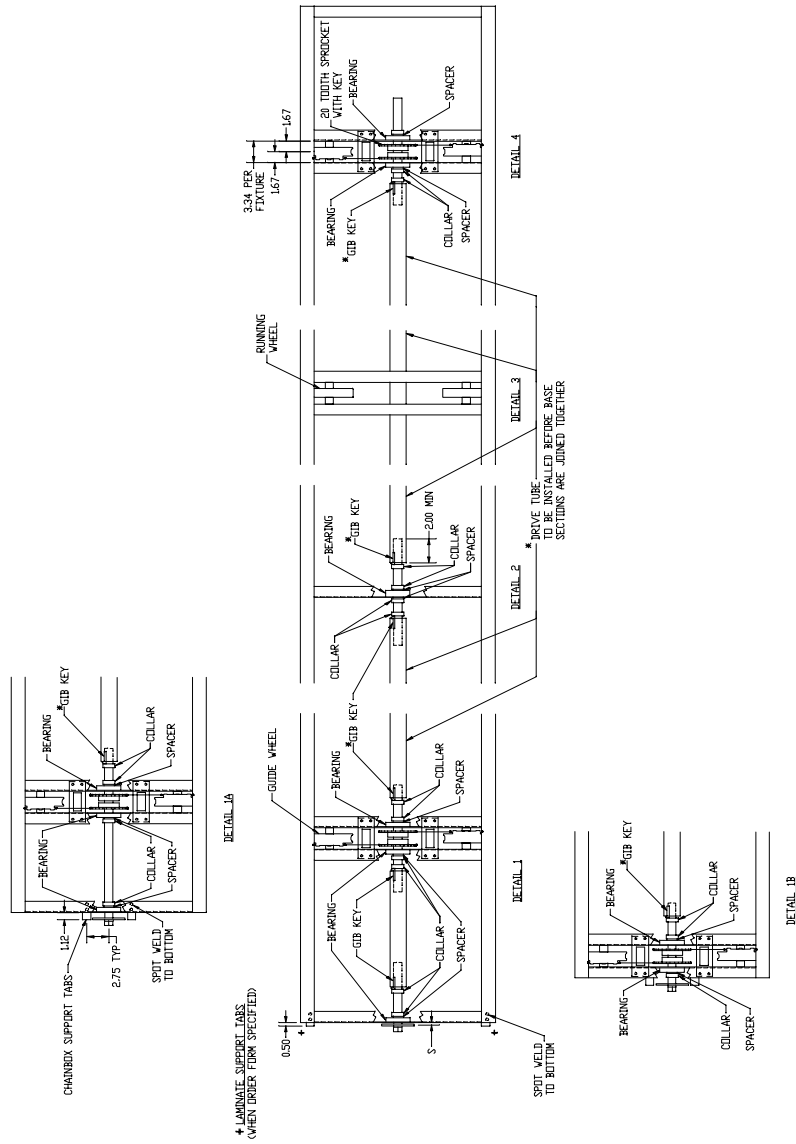

Figure 13
2. Install drive tube collar and gib key. (See Figure 13)